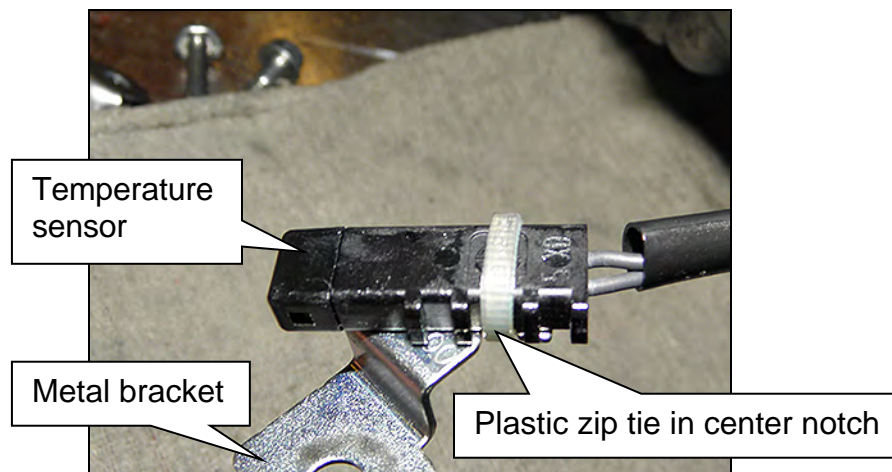

Figure 21
- a. Cut the plastic zip tie with an appropriate tool to remove the temperature sensor bracket from the terminal harness assembly. (Figure 21).